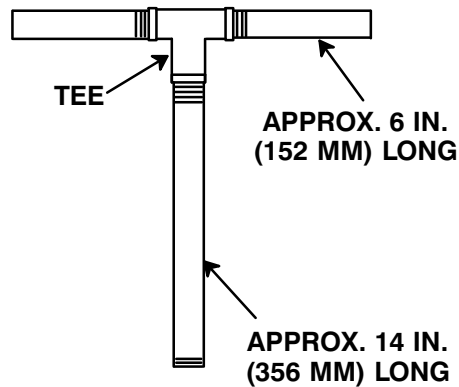

Figure 6. Rotating Assembly Tool
*An optional disassembly tool is available from the factory. If the tool is used, follow the instructions packed with it. A similar tool may be assembled using 1/2-inch pipe (schedule 80 steel or malleable iron) and a standard tee (see Figure 6). All threads are 1/2-inch NPT. **Do not pre-assemble the tool.***